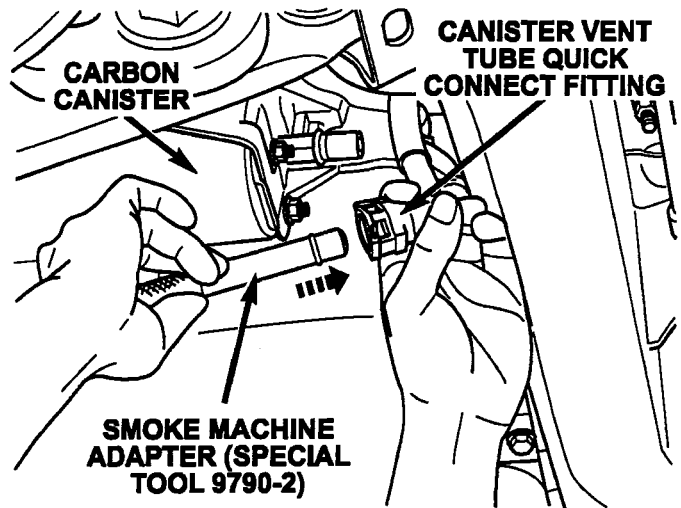

Figure 4
6. Connect the Smoke Machine Adapter (Special Tool 9790-2) to the canister vent tube quick connect fitting (Figure 4).